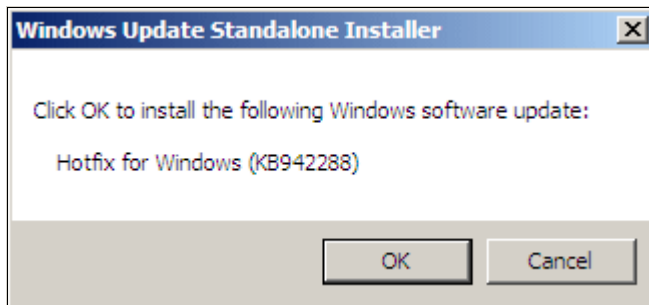

Figure 6-16 Installing hotfix pre-req
5. The “Windows Update Standalone Installer” panel (Figure 6-16) displays. Click OK to install the required hotfix. Once completed, restart the server.